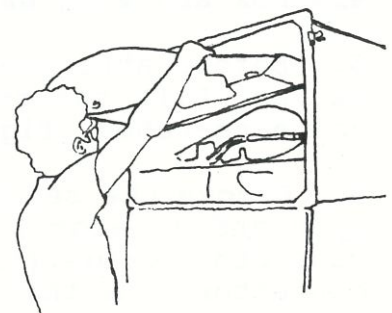
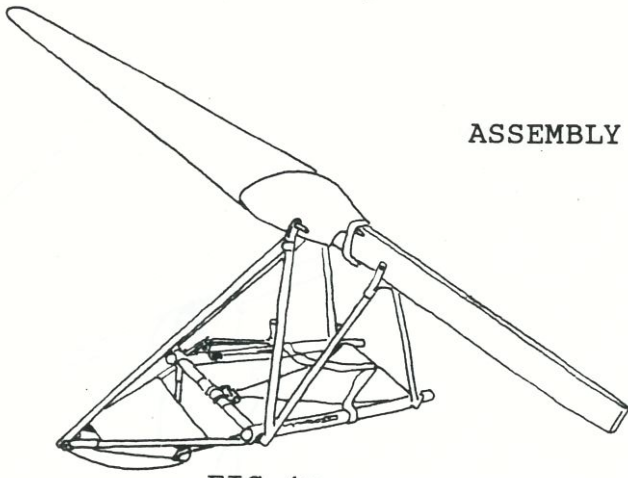

FIG. 4
FIG. 4a
4. Carefully remove the upper wing from the box, making sure to avoid dragging the control rods on the inside of the box by lifting the trailing edge slightly while sliding the wing out.(fig.4) Slide the wing onto the main spar all the way to engaging the cage and spar locator pins into the root rib.(fig.4a) If the wing does not slide smoothly, wiggle the cage a bit or get some assistance until practiced. **Never force the wing onto the spar, or damage to the sparbox and wing may result.** Rest the wing tip on the ground.